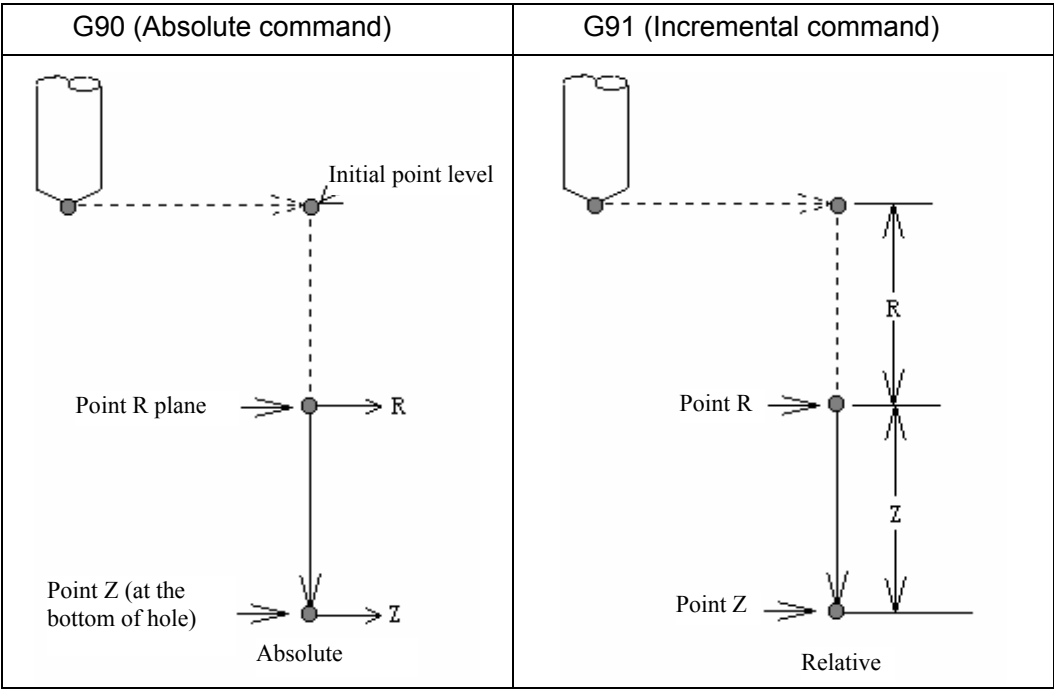

Fig. 13.1 (B) Absolute and incremental commands for canned cycle
command is G 90. The specified R value is the distance relative to the initial plane, and the Z value is the distance relative to the R point plane when the command is G91. See the Fig. 13.1 (B)